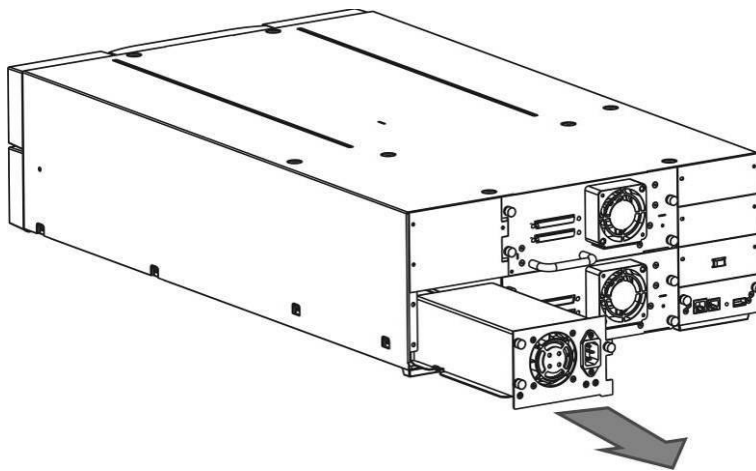

Figure 146 Remove the power supply
4. Pull the power supply straight out of the library as shown in **Figure 146**.